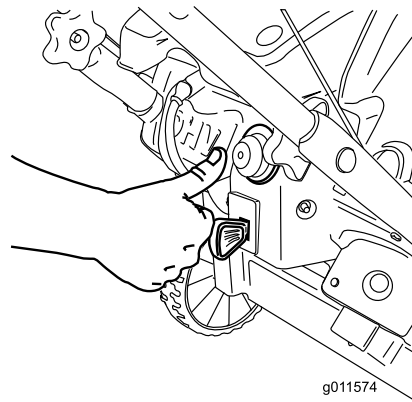

Figure 19
3. Firmly push in the primer 2 times with your thumb, holding the primer in for a second before releasing it each time (Figure 19).